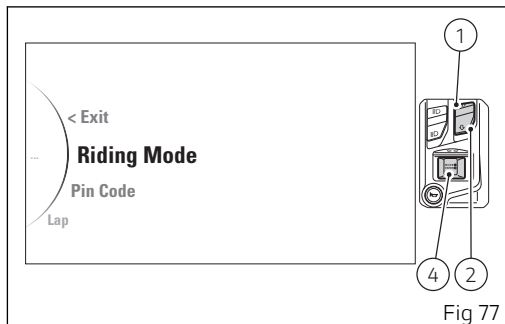

Fig 77
- press button (1) or button (2) to select "Riding Mode" (Fig 77) and press button (4);